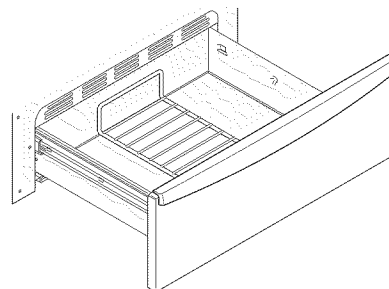

Figure 32: Downward position
- In the downward position (See Figure 32) to allow for light weight food items and empty cookware (for example, rolls, pastries, and dinner plates) on the rack.